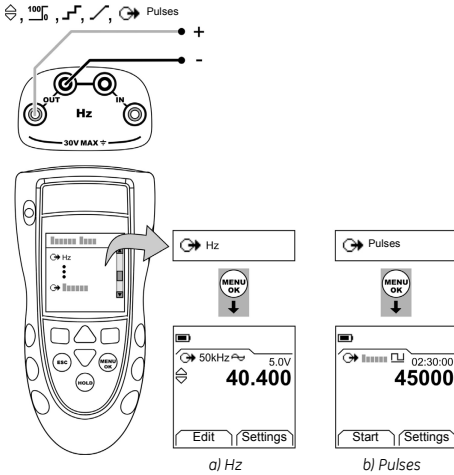

Figure 2: Example configuration - To supply Hz or Pulses
1. Connect the instrument (Figure 2) and, if necessary, adjust the *Set Up* (Table 1).